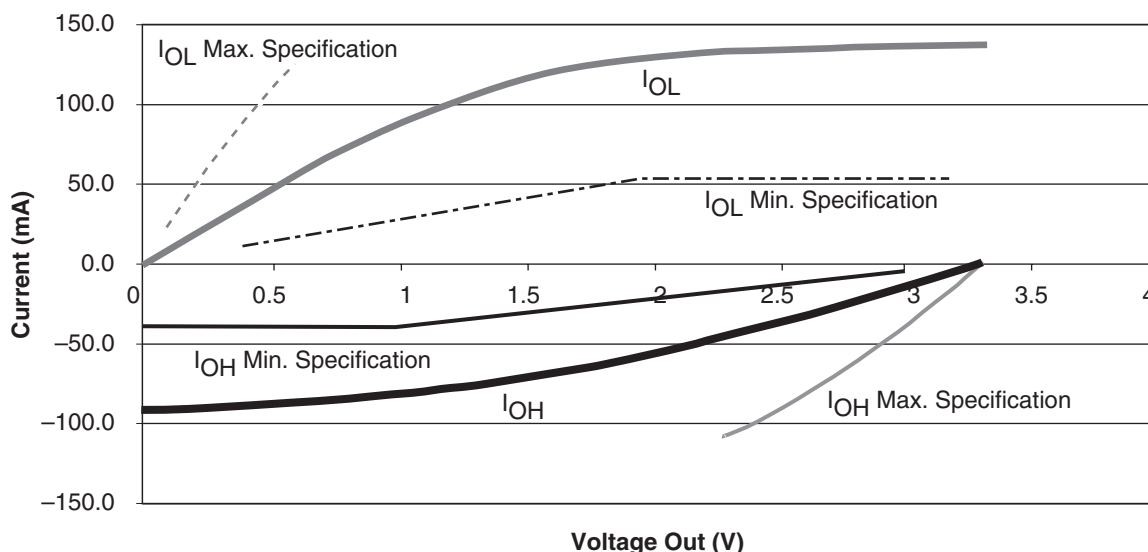

Figure 2-9 • 3.3V PCI V/I Curve for the RTSX-SU Family
1. Refer to the VII curves in Figure 2-9 on page 2-19. Switching current characteristics for REQ# and GNT# are permitted to be one half of that specified here; i.e., half-size output drivers may be used on these signals. This specification does not apply to CLK and RST#, which are system outputs. The "Switching Current High" specification is not relevant to SERR#, INTA#, INTB#, INTC#, and INTD#, which are open drain outputs.
2. Maximum current requirements must be met as drivers pull beyond the last step voltage. Equations defining these maximums (C and D) are provided with the respective curves in Figure 2-9 on page 2-19. The equation defined maximum should be met by the design. In order to facilitate component testing, a maximum current test point is defined for each side of the output driver.